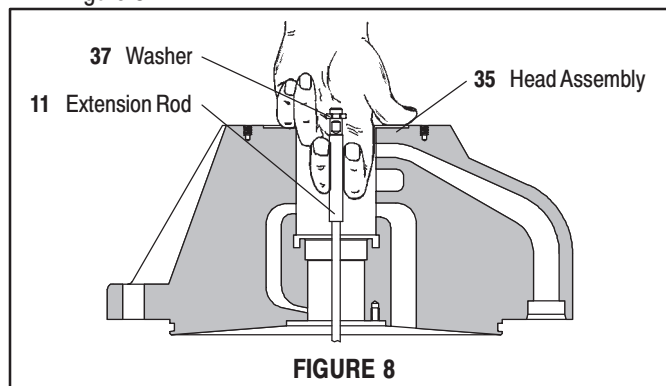

FIGURE 8
25. Place the (12) lower washer over the (11) extension rod.
26. Pull the (11) extension rod up and grasp with two fingers, as shown in figure 8.